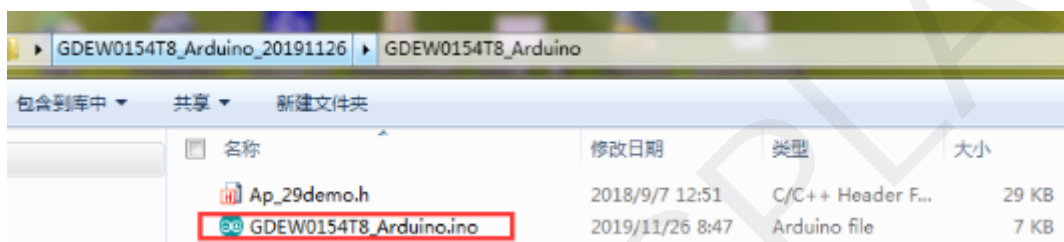

Figure 5 : Open Arduino.ino
- 3) Open the Arduino.ino file in the folder shown in Figure 5 with Arduino 1.8.6.